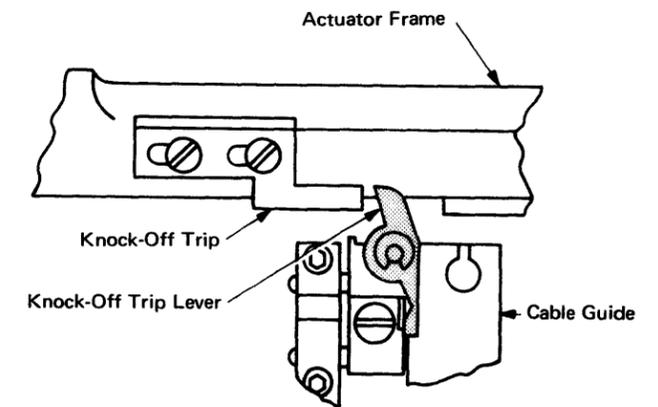

Figure 2-42. Knock-Off Trip and Trip Lever [07563]
7. Remove knock-off trip (Figure 2-42).